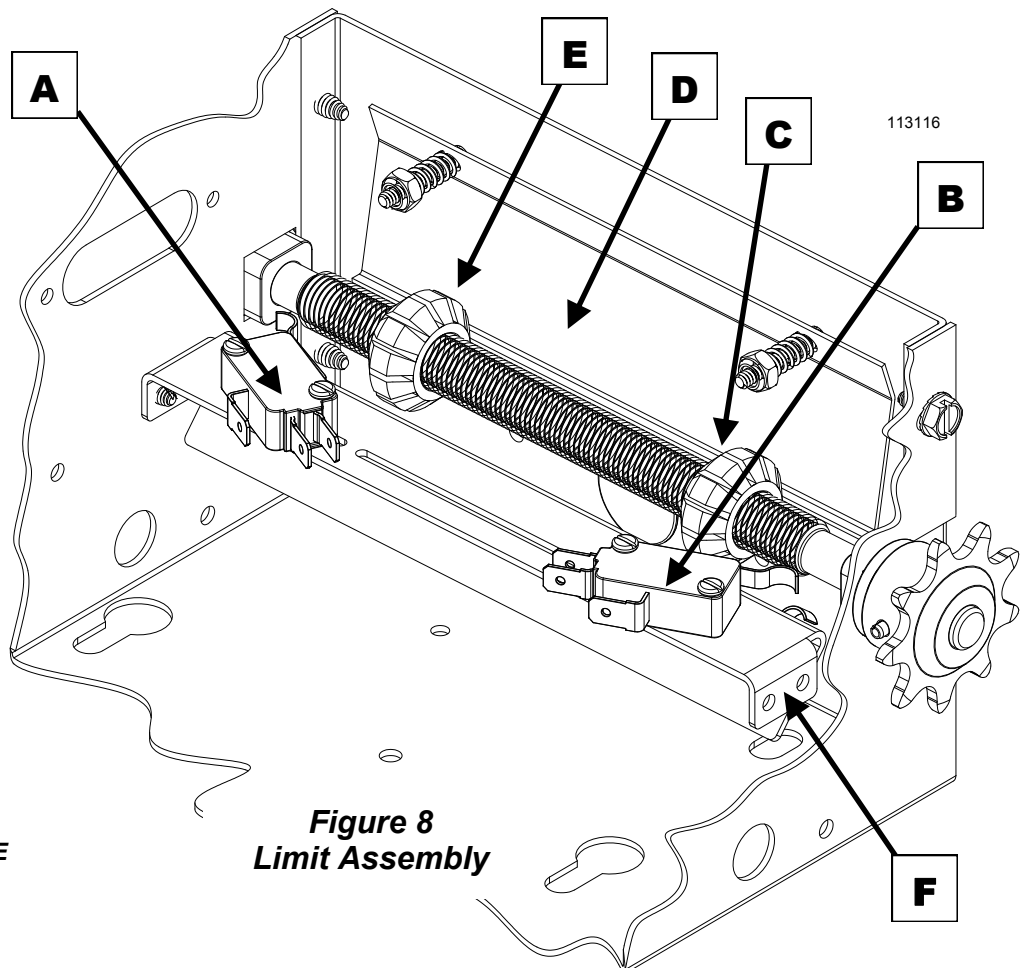

Figure 8
- 1) With the cover open on the electrical enclosure, reference Figure 8 below. There are two (2) switches (A and B) mounted to the 'V' bracket (F). The Close Limit switch (B) and the Open Limit switch (A) are mounted to the top side of the 'V' bracket as shown. These switches are activated by the two limit nuts (E & C) on the threaded shaft which move laterally along the shaft as the operator opens and closes the door. When a limit nut nears the end of the shaft it activates a switch.
- 2) Depress the Limit Nut Retention Plate (D) so it disengages from the slots in the limit nuts and move the Limit nuts to the center of the threaded shaft. Re-engage the Limit Nut Retention Plate (D).
- 4) Depress the limit nut retaining Plate (D) so it disengages from the slots in the limit nuts. Turn the OPEN limit nut (E) on the shaft until it engages the Open Limit Switch (A). You will need to listen for an audible click. Release the retaining plate and be sure that it engages in slots of both limit nuts.
- 5) Manually lower the door to approx. 4 inches shy of the fully closed position and repeat Step #4 with the Close Limit nut (C) and the Close Limit switch (B).
- 8) If needed, a fine adjustment of the Close Limit switch (B) or Open Limit switch (A) is possible by loosening the screws slightly that hold the switch to the V bracket and moving the switch within its mounting slots. Ensure to retighten the switch mounting screw. Moving the Reverse Cutout switch closer to the center of the box will increase the point where the reversing feature cuts out (to allow for irregularity in the floor, etc.). The reverse cutout point is factory adjusted to approx. 4 inches off the floor.